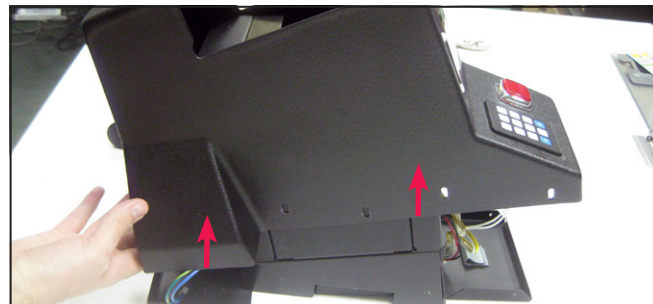
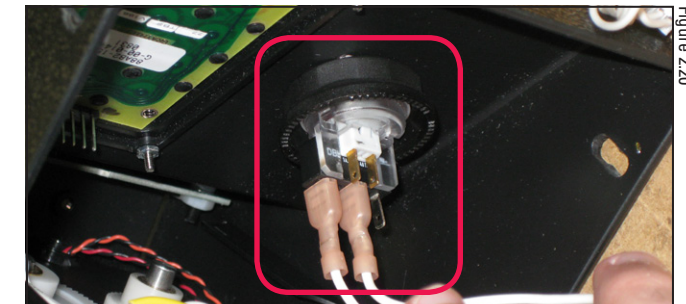

Figure 2.15
Figure 2.20
19) ... some might find it easier to disconnect the keypad connector by reaching underneath the plastic body (in the bottom right of Figure 2.15)
20) The final component that needs to be disconnected before the plastic body can be lifted is the square pushbutton switch. The switch has 5 prongs, but is connected to the machine with only 2 wires. The 2 wires are interchangeable, but they must be connected to the 2 prongs shown in Figure 2.20. The switch be accessed by reaching underneath the plastic body (in the bottom right of Figure 2.15)